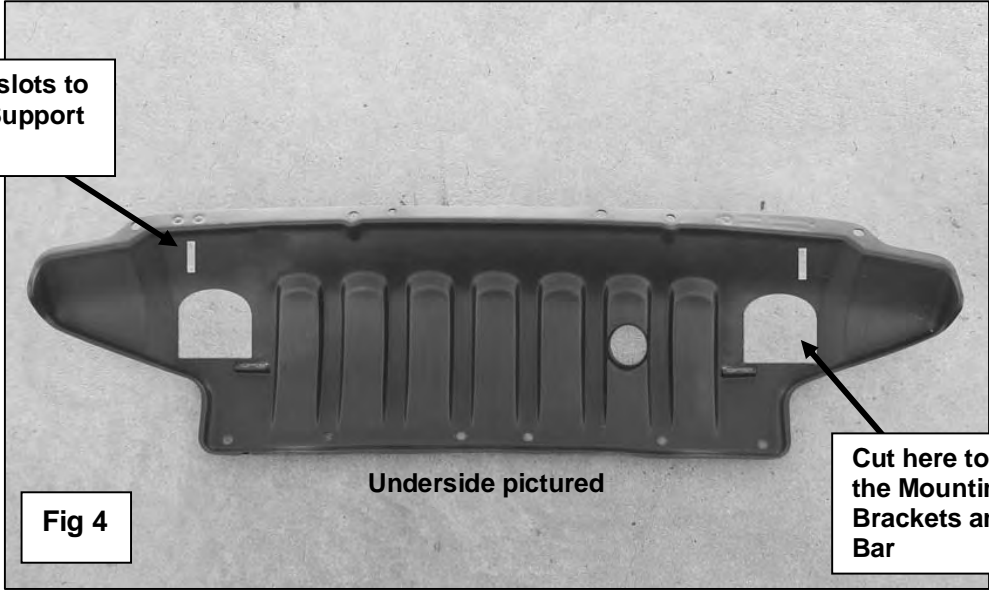

Fig 4
6. Position the splash guard back up to the vehicle and attach with two clips at the front-top outer mounting positions only. Pull the splash guard back to the Mounting Brackets to estimate the amount of cutting required to clear the Brackets and Bull Bar. Mark the location of the Mounting Bracket onto the back of the splash guard. Determine the location for the slot for the Support Bracket, **(Figure 4)**. **NOTE:** To maintain the integrity of the plastic Splash Guard, remove only enough material to clear the Bull Bar and Brackets. Make small cuts and check the fit several times before final installation. Reinstall the splash guard using the factory hardware.